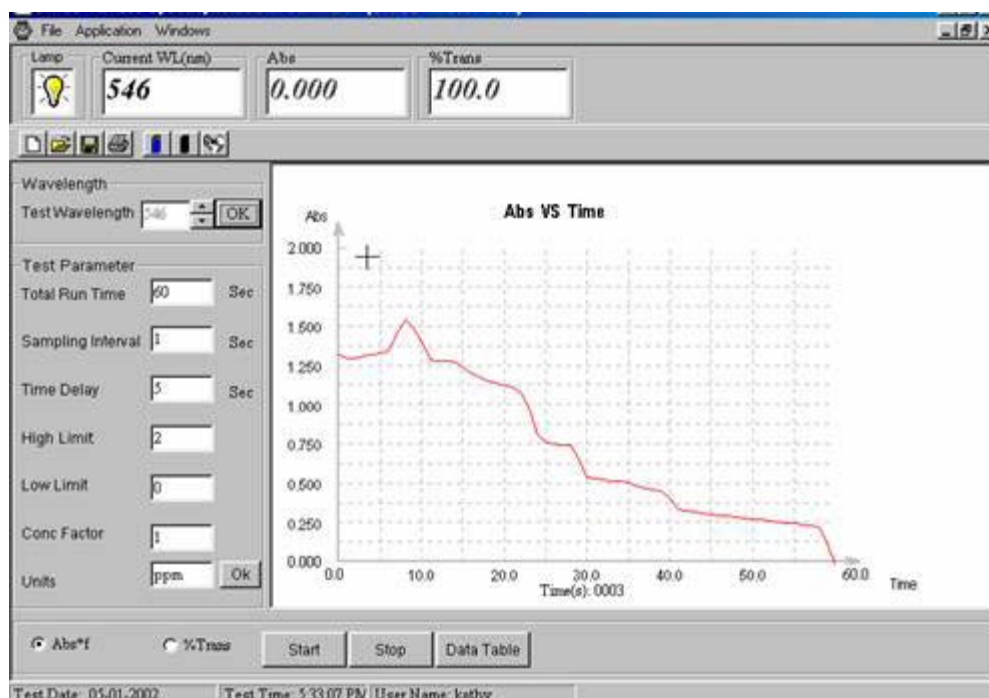

Figure-36 Sample Test Results of **Kinetics**
- Step 9: Place your sample in the Sample Compartment and click the **Start** Button once all the **Test Parameters** have been set and you are ready to start your measurement (Figure-36).